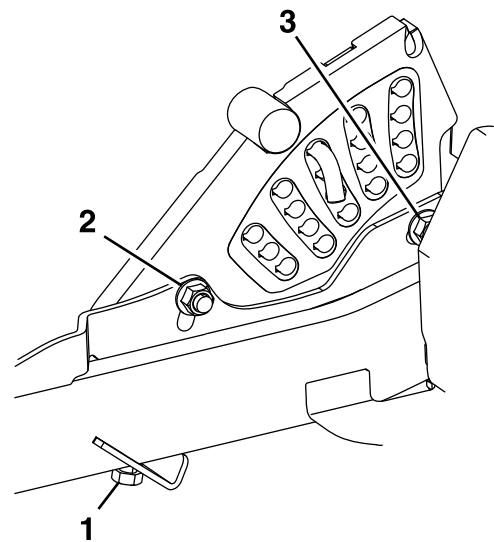

Figure 80
7. If the deck is too low, tighten the single-point adjustment bolt by rotating it clockwise (Figure 80).